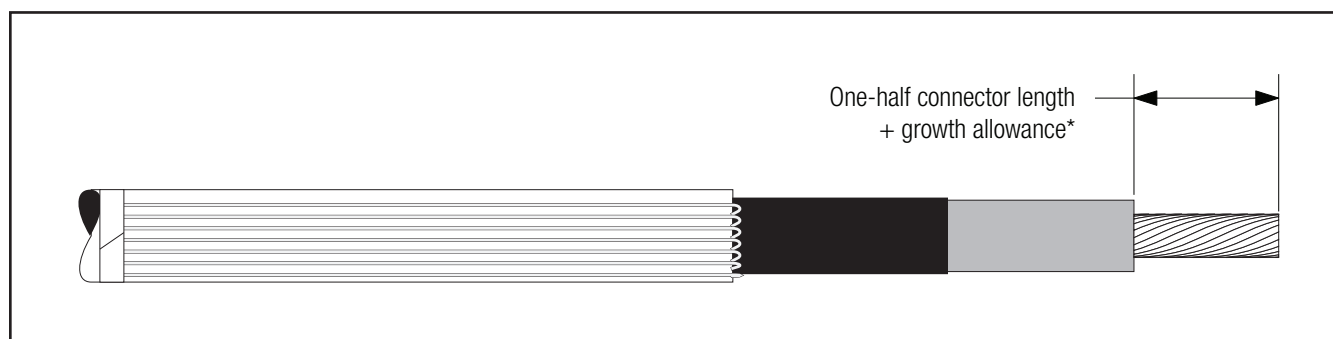

Figure 10
3.3 If using a crimp type connector, remove cable insulation for 1/2 connector length plus an allowance\* for increases in connector length due to crimping. Insulation removal length shall not exceed 2 1/4" (57 mm) from conductor end. **Do not install connector now** (Figure 10).